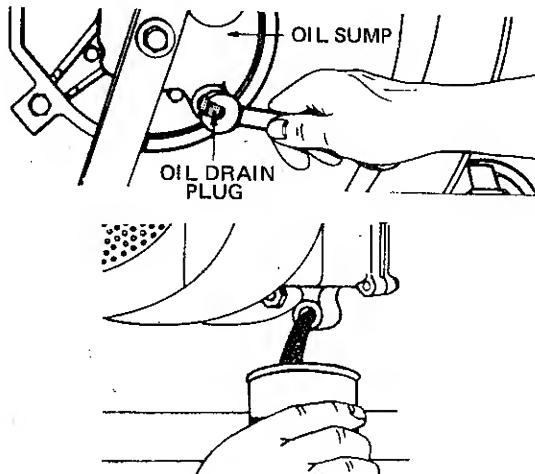

Figure 13
1. CHANGE OIL every 25 hours after first change of 5 hours. Oil may be drained through oil drain on bottom of engine (Figure 13) or oil fill hole. When draining through oil fill hole, empty fuel tank or keep engine spark plug side up.